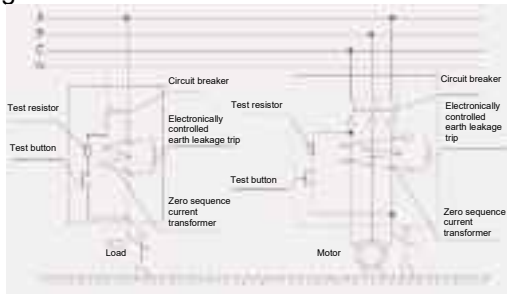

Figure 2 Principle of operation
2. When an earth leakage or an electric shock occurs in the protected circuit, as long as the earth leakage current reaches the set earth leakage operating current value, the output signal of the secondary winding of the zero-sequence current transformer will trigger the thyristor to conduct, and the earth leakage trip will be energized and pulled in, so that the earth leakage breaker will be tripped, thus cutting off the power supply to protect against earth leakage and electric shock. See Figure 2 for the principle of operation.